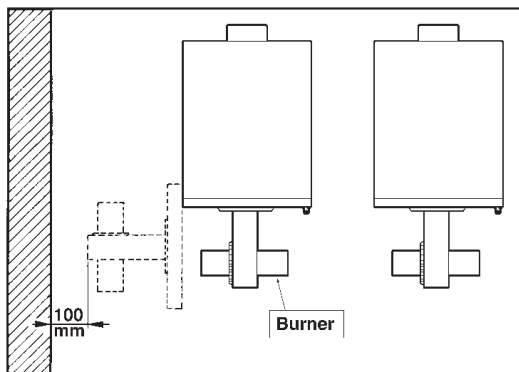

Fig. 23
4.15 (Fig. 23) When positioning the boiler unit, check that after burner assembly the front door is able to open without striking against the wall or any other nearby boiler, i.e. leave a space of at least 100 mm as shown in the figure.